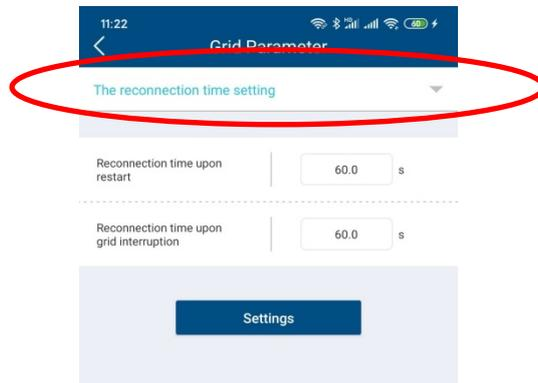

Figure 2-5-19 The reconnection time setting
- **The reconnection time setting:** the first startup time and reconnection time of the inverter. As shown in Figure2-5-19 .